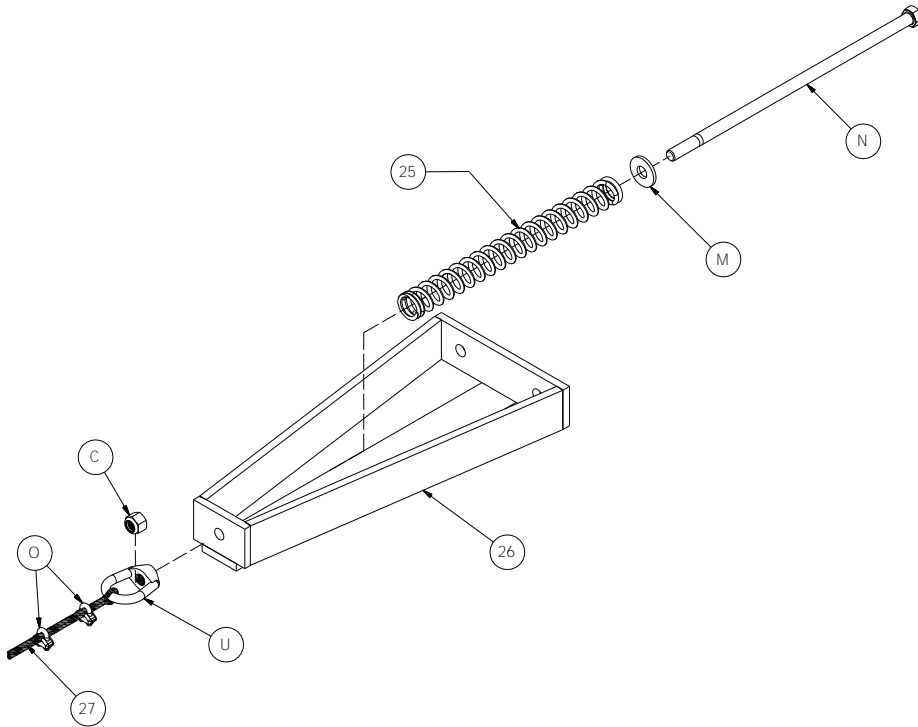

Figure 3-5.
1. Refer to Figure 3-5. Assemble the spring frames as shown below.
6. **Refer To Figure 3-5.** Finally, run wire rope over water end sheave to eye nut (U) of the spring frame on rear of carriage by looping it through the eye nut, do not secure yet.